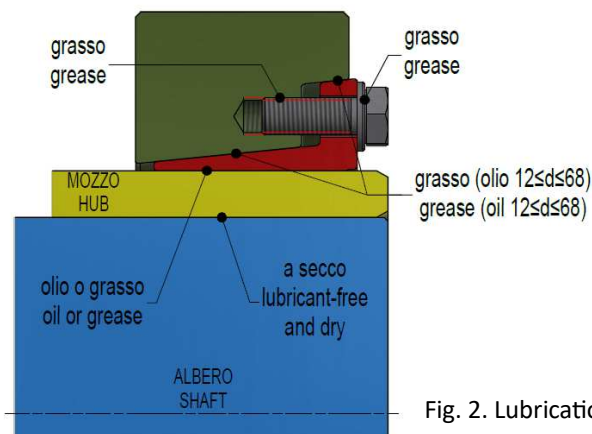
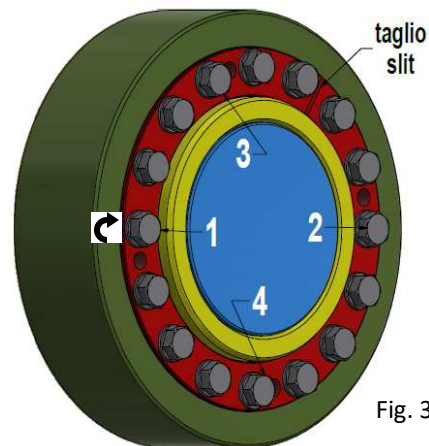

Fig. 2. Lubrication.
Fig. 3. Pre-tightening.
! Do not remove the grease from screws and conical surfaces (fig. 2).
- Clean hub OD and Shrink Disc bore. For ease of installation, lightly lubricate hub OD before assembling Shrink Disc onto hub (fig. 2).
- Carefully solvent clean and dry shaft and hub bore from any lubricant (fig. 2) prior to mounting hub onto shaft. This step is critical, as any lubricant on the shaft/hub bore interface will greatly reduce the capacity of the Shrink Disc connection.
- Move the Shrink Disc onto the hub, then move the hub onto the shaft until the required position is achieved. **The shaft must support completely the toleranced section of hub bore (fig. 2). Hand-tighten three or four evenly spaced screws (fig. 3) and make sure that inner and outer rings are aligned;** then hand-tighten remaining screws. At the end of this stage, a light connection is achieved. Hub will not move axially respect to shaft during next tightening steps.